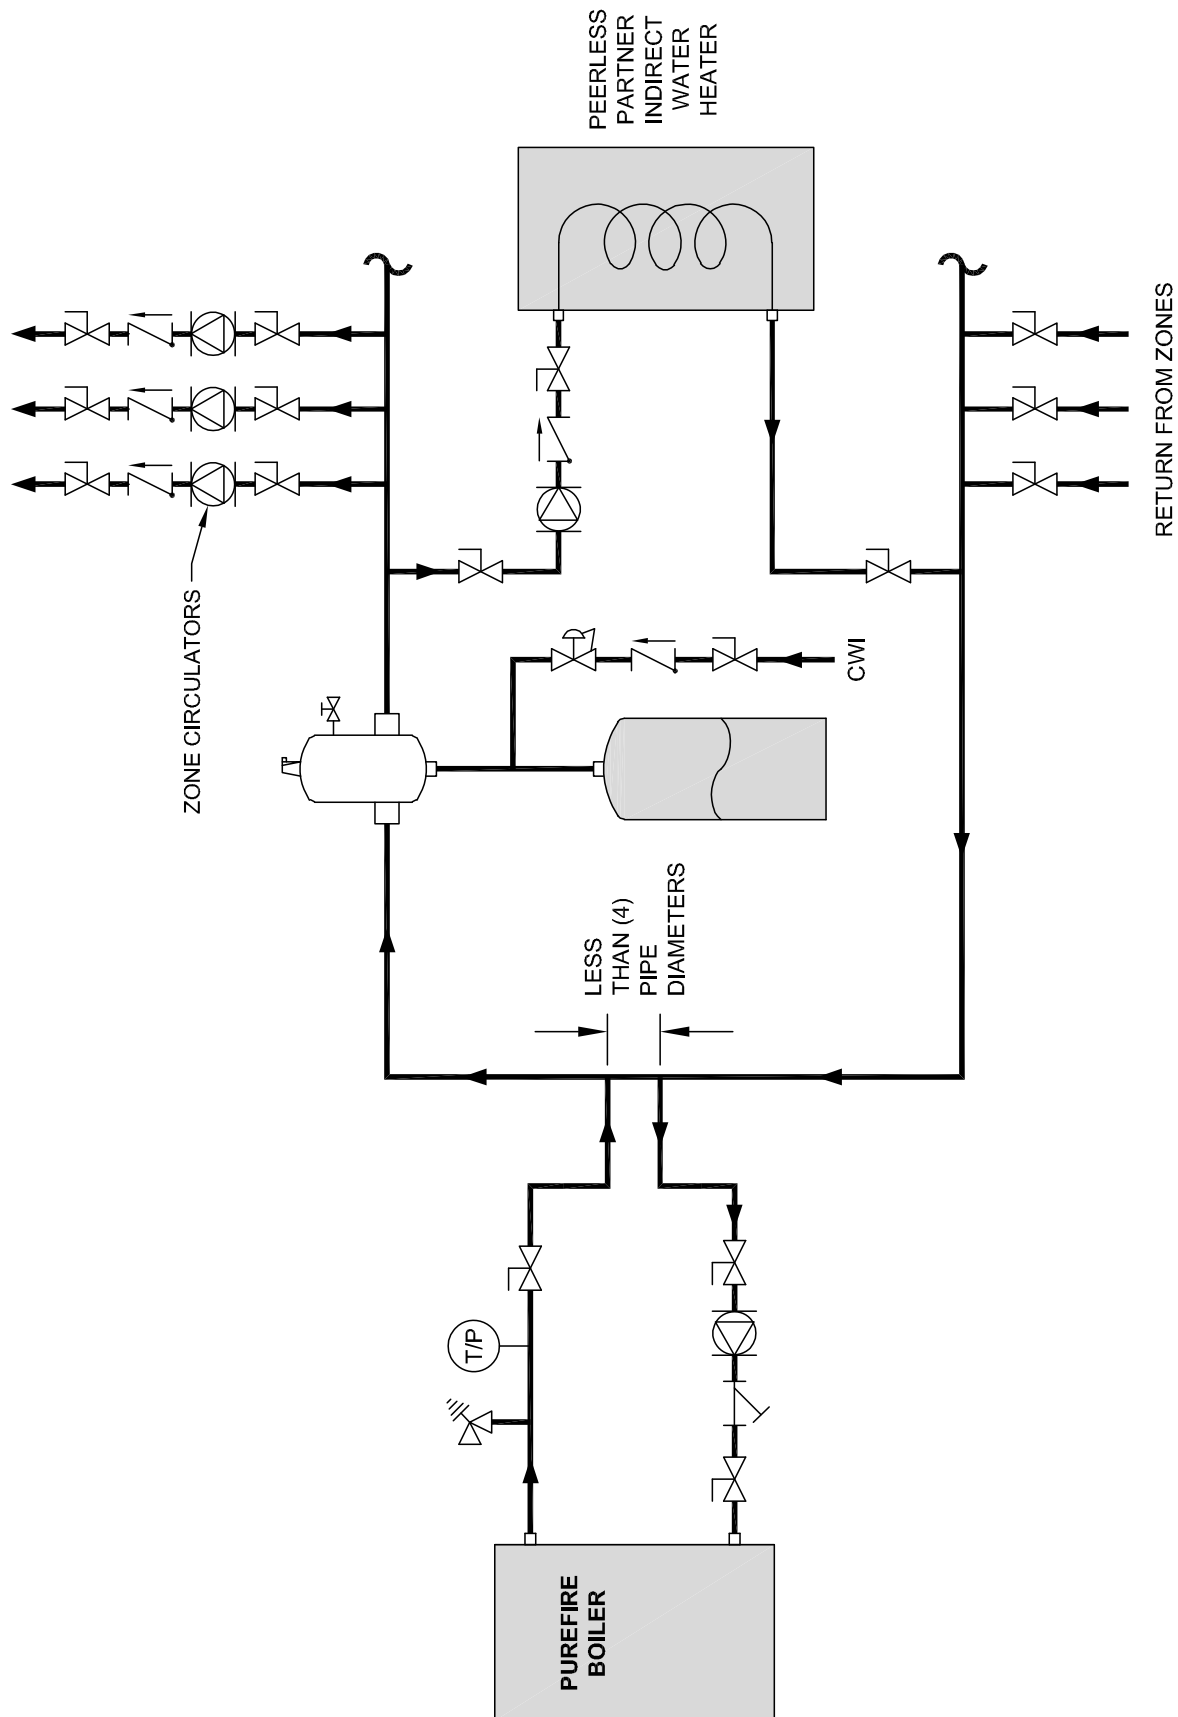

Figure 4.4: Recommended Piping – One Boiler with Multiple CH Zones & One DHW Tank
1. Figure 4.4 shows a single boiler with multiple heating zones. In this case, the DHW zone is piped in parallel to the heating zones on the primary loop.